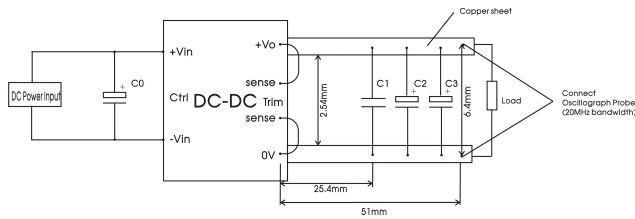

Fig.4
Note: ①For ripple and noise measuring method, please refer to Fig. 4 .
All the DC-DC converters of this series are tested before delivery using the recommended circuit shown in Fig. 4.